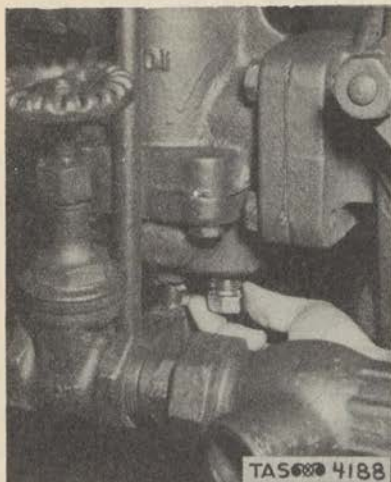

Figure 248. Removal of Drain Plug at Bottom of Pressure Regulator and Unloading Valve.
(10) Remove the drain plug at the bottom of the pressure regulator and unloading valve. (Fig. 248)